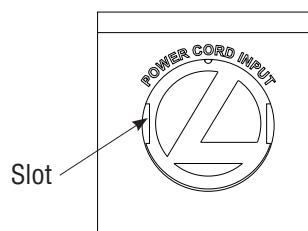

Figure 6
2) To Install power cord to (17) fixture- Locate end of fixture noted "Power Cord Input" and remove Logo plug (9) to expose power cord port. -See Fig 6
3) To remove plug cover (9)- gently insert flat blade screwdriver into slot on either side of cover. Gently pry upward on plug to remove.
4) Unbundle power cord (17) and plug fitting into end of fixture.